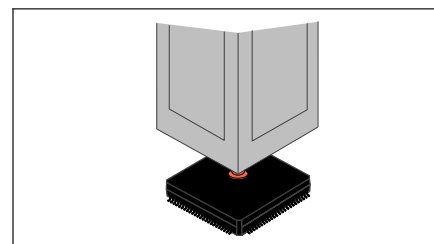

Figure 2 Position Component
5. Position component to be removed under nozzle. (See Figure 2.)